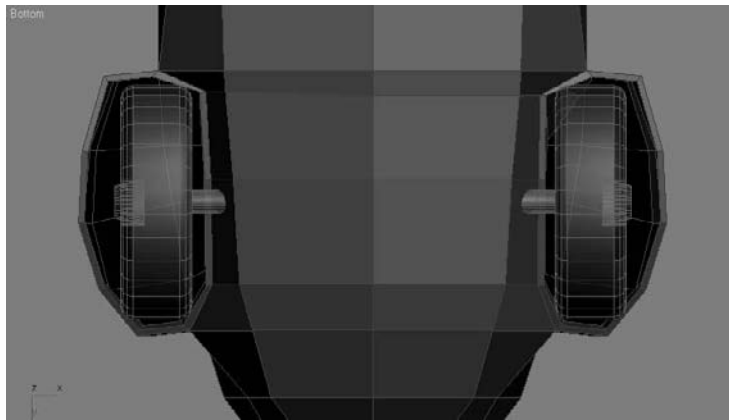

Figure 5.96
- In the Modifier Stack, click the Light Bulb icon next to TurboSmooth (Figure 5.96). This turns off the effect of the modifier.